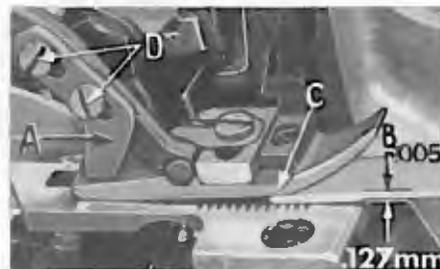

Fig. 17
Styles 39500 FT, FU, GD, GL, GT and MM are equipped with a presser foot hold down plate (A, Fig. 17). The purpose of this plate is to hold down the rear of the presser foot and when set correctly it will help produce a more flat pucker free seam. An approximate setting is shown in Fig. 17. Set the machine with the feed dogs below the throat plate and insert a .005 inch (.127 mm) shim (B) under the front portion of presser foot (C). Loosen screws (D) which hold the hold down plate in position and move the plate down until it rests firmly against the presser foot. Tighten the two screws and remove the shim.